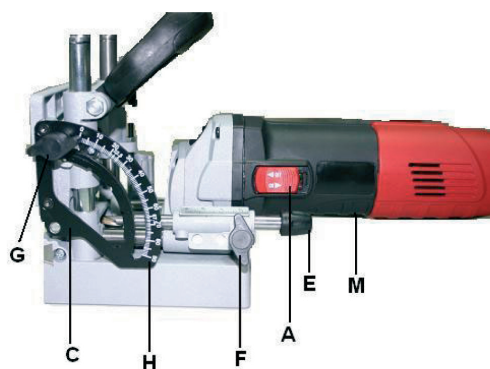

Fig.4
- J Transparent frontal protection (Fig.4)
- L Flexibly adjustable pin (Fig.4)
- M Motor cover (Fig.4)